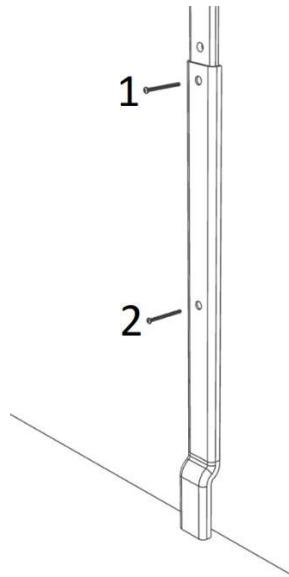

Figure 215: **Insert Flip Toggle Screws into the Remaining Holes on the Lower Post**
19. Insert one of the flip toggle screws into the wall through the aligned top hole of the lower post and the bottom hole of the post coupler (Position 1 in Figure 215).
21. Insert flip toggle screws into the remaining holes on the lower post and tighten. (Position 2 in Figure 215).